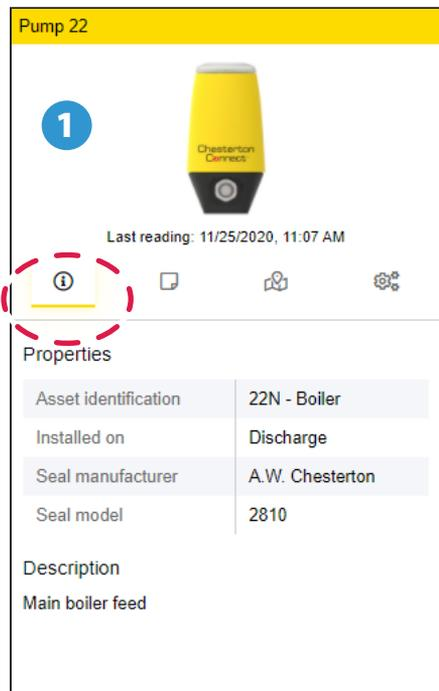

Figure 7
**1 Information** dialog allows users to enter information specific to the application. This information is maintained in the history. You can enter properties and a description of the asset where the sensor is installed including (see figure 7):